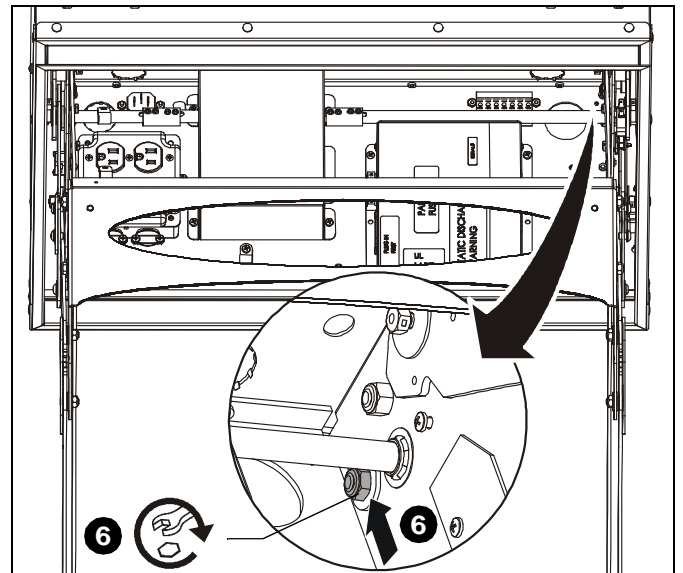

Figure 10
6. Tighten chain tensioner by moving the nut upwards in the slot and tightening nut. (See Figure 10)